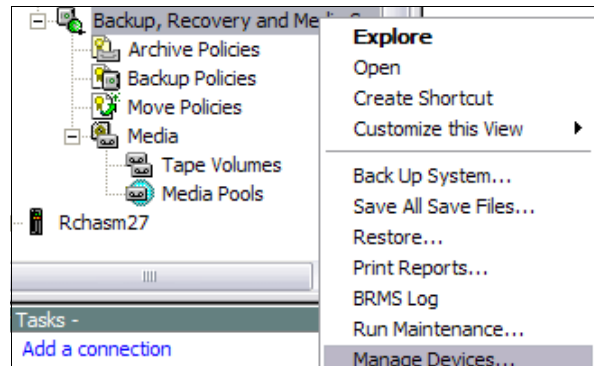
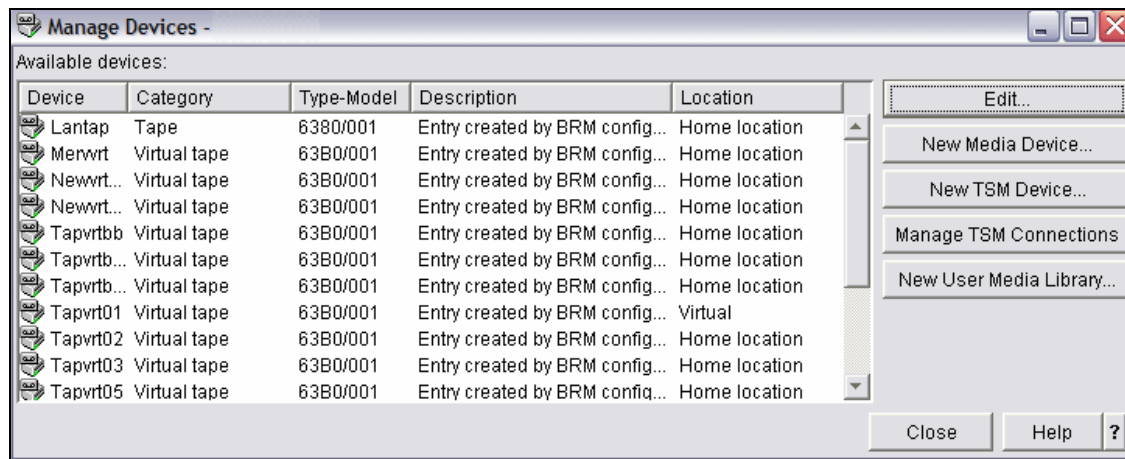

Figure 8-19 Select manage devices
Figure 8-36 Manage devices
2. Right-click **Backup, Recovery and Media Services** and select **Manage Devices**, as shown in Figure 8-19.
4. To determine why BRMS pinpointed volume V32K06, click **Tape Volumes** under Backup, Recovery and Media Policies (in Figure 8-19). Figure 8-22 is shown.
Finally you have to check, in BRMS, which location the tape drive points at. Right-click **Media under Backup and Recovery Media Services** and select **Manage devices** (Figure 8-19 on page 442). This displays a window shown in Figure 8-36. Verify whether your drive shows location **VIRTUAL**, since, from a BRMS perspective, it is there that your tape volumes are placed.